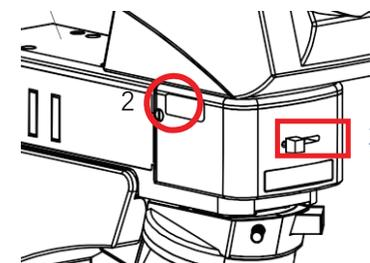

Fig.28
The light and dark fields of the system can be switched by dialing ① fast. When the dial is pushed to the leftmost BF, the system is in the light field for observation. On the contrary, the system is in the dark field. (See Fig.28)